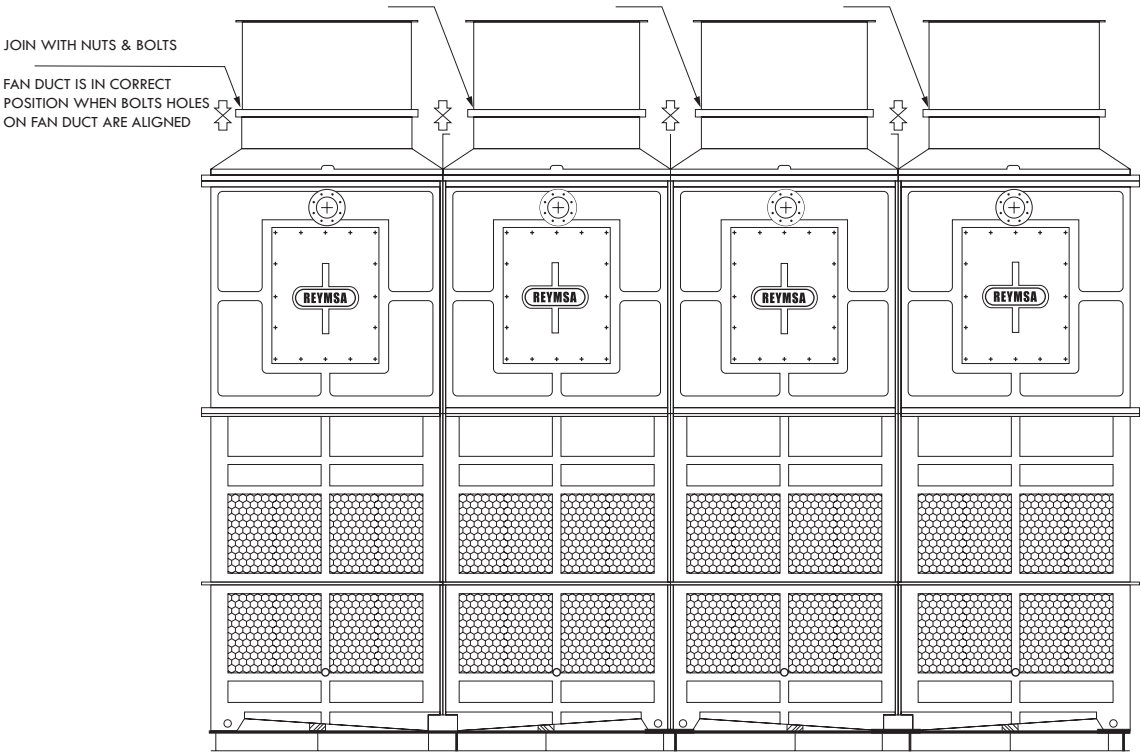

Figure A-34: Fan sections installation
O. Place fan duct 2, following the same procedure as Step N. Repeat until all fan ducts have been installed. (See Figure A-34). Note that there are two fan ducts per Tower Cover Section.